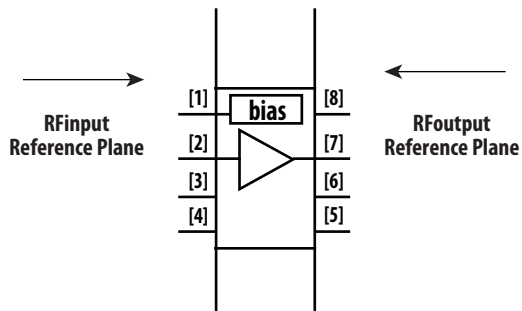

Figure 32
2. Scattering and noise parameters are measured on coplanar waveguide made on 0.010 inch thick ROGER 4350. The input reference plane is at the end of the RFinpin pin and the output reference plane is at the end of the RFoutpin pin as shown in figure 32.